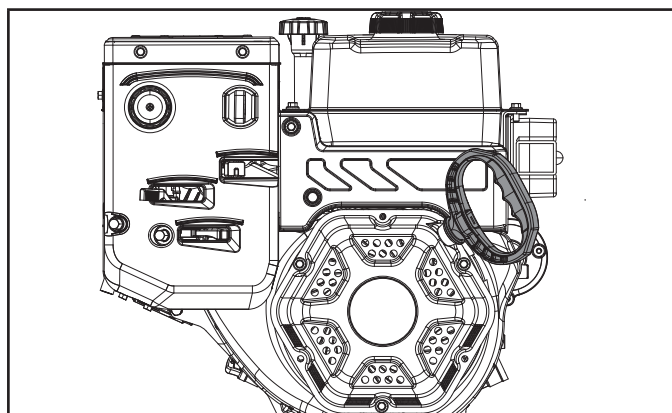

Figure 11
4. Stand back and to the right of the unit, pull the starter grip lightly until you feel resistance then pull briskly. Return the starter grip gently (Fig. 11).